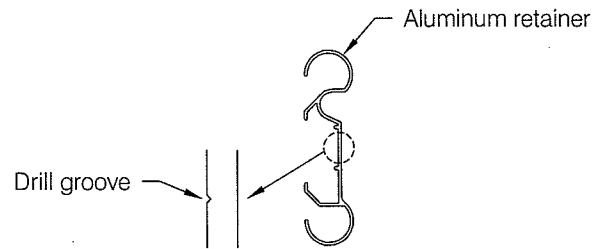

fig 2
*Note:* Use groove in retainer to locate centerline for drilling, see **fig 2**